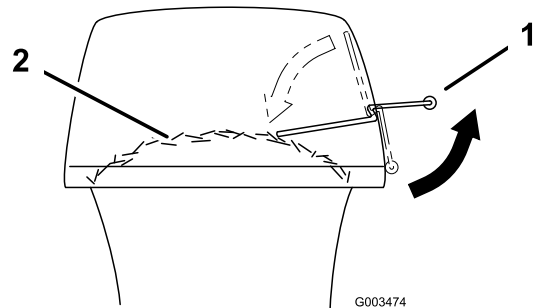

Figure 20
2. To check if both bags are full, periodically raise the full bag tester handle (Figure 20). If you feel resistance as you raise the handle, the bags must be emptied because they are full (Figure 20).